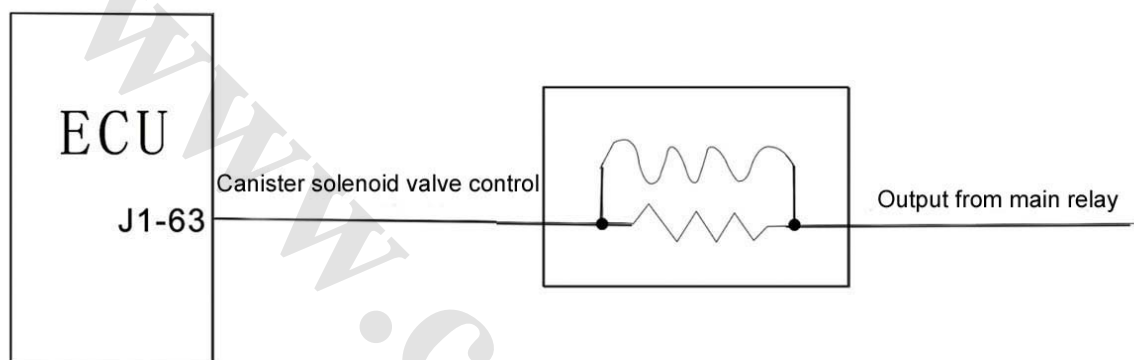

Fig. 1-20
**(3) Trouble diagnosis:** The ECU will carry out trouble diagnosis for the driving stage of the canister control valve. When the driving stage of the canister control valve is short or overloaded to the battery voltage, as well as short and open to the ground, the fuel ration closed loop control self-learning and the idle speed air ration self-learning will be closed, while the self-learning data at that moment will be effective. When the canister solenoid valve is under trouble, the engine is likely to experience unstable idle speed or over-high idle speed.
**(4) Parts circuit** (Fig. 1-20)